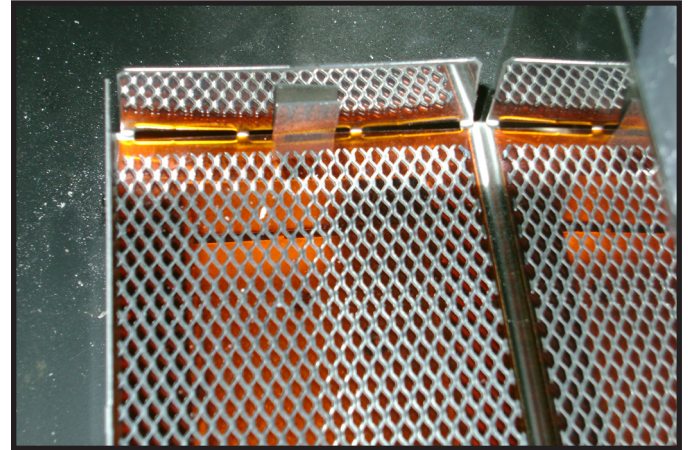

Figure 11.9 Ember Basket
1. Remove ember basket by lifting it from fireplace. There is one metal tab on each end of the ember box that engages slots in the ember basket. See Figure 11.9.
3. Reinstall ember basket over the ember box by inserting the tabs on the ember box in the slots on the ember basket. See Figure 11.9.